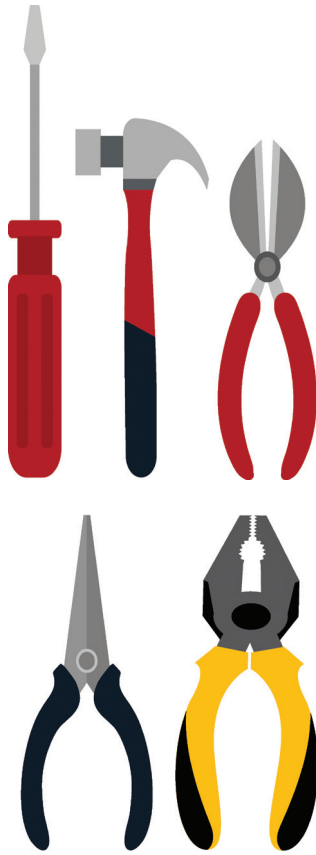

Fig. 7.10: Insulated tools
- All tools and equipment not being used must be safely stored. Always use insulated tools while working. The typical insulated tools are shown in Fig. 7.10.